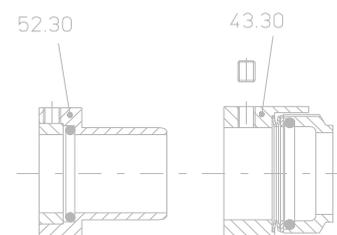

Fig. 5
13. Remove mechanical seal rotary element 43.30 from the shaft sleeve 52.30 (fig. 5)